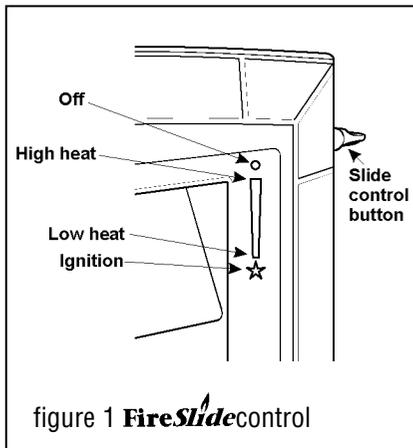

figure 1 **FireSlide**control
The **FireSlide** control is shown in figure 1.
3. If low heat is required, release the button. The button will automatically spring up to the low heat position shown in figure 1 (See note i below).
4. For a higher heat level slide the button upwards. The burner flames and heat output will gradually increase until the button reaches the high heat position shown in figure 1. When the button reaches the high heat position you will feel a check to its movement. ***Do not slide the button above the high heat position unless you want to turn the fire off*** (See note i below).
3. On no account must the fire stand on carpets or other combustible materials. The fire must stand behind a non-combustible hearth surface. The hearth material must be at least 12mm thick. Its top surface should be 50mm above floor level to discourage placing carpets. Rugs or other combustible materials over the hearth. The minimum size of the hearth is shown in figure 1.